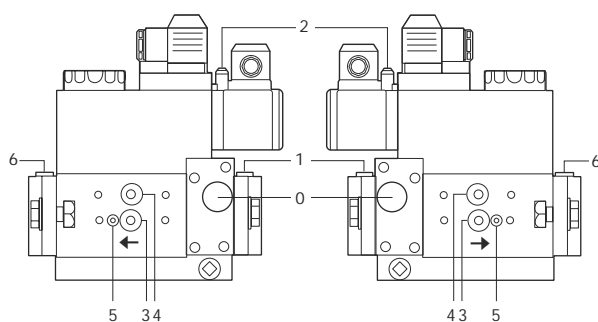
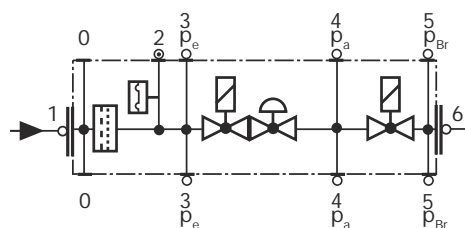

Fig. 26
Fig. 27
- Clean and examining the gas filter cartridge, if necessary replace it (Fig. 26 on).
- Change the filter if the pressure difference between pressure connection 1 and 3 (Fig. 26-Fig. 27) is $\Delta p > 10$ mbar.
- Change the filter if the pressure difference between pressure connection 1 and 3 (Fig. 26-Fig. 27) is twice as high compared to the last check.